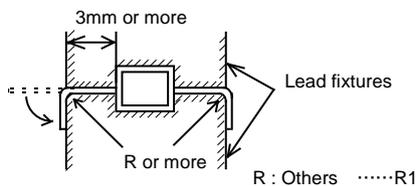

Fig.2 Lead bending fixture
- c) Any lead should be bent though a radius of at least 1mm. As shown in Fig.2, it is recommended to form the leads with a specified fixture.
(2) Tension
(3) Torsion